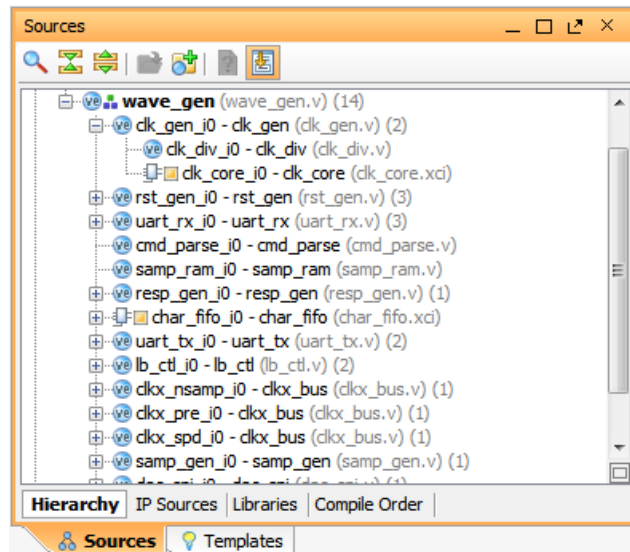

Figure 15: IP Integrated into the Design
1. In the Hierarchy Tab of the Sources window, look at the `clk_core` IP customization instantiated under the top-level of the design, `wave_gen`, as seen in Figure 15, page 21.